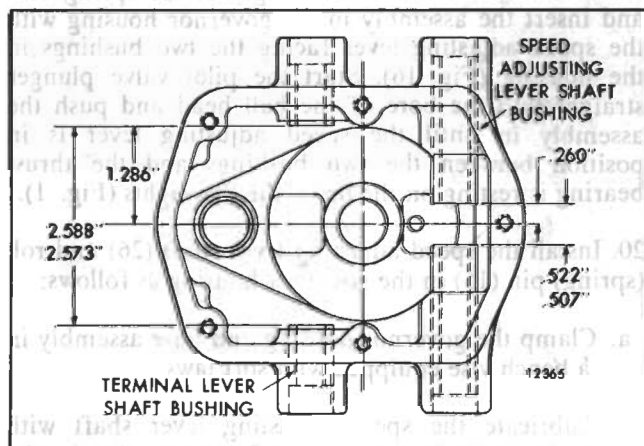

Fig. 13 - Location of Speed Adjusting Lever and Terminal Lever Shaft Bushings in Governor Housing
1. If removed, install new speed adjusting lever and terminal lever shaft bushings in the governor housing to the specified dimensions shown in Fig. 13.
2. If removed, install the pipe plug (83) in the governor housing.
3. Lubricate the two oil pump gears (38) and (63) with engine oil and place them in their respective positions in the governor base (40).
4. Place a new seal ring (39) in the groove in the governor base, with the wide side of the seal down in the groove.
5. Set the governor housing (45) on the base with the dowels in the base registering with the holes in the housing and the idler gear stud in the housing registering with the hole in the idler gear. Press the housing down against the seal ring in the base.
7. Insert the three screws (42) through the governor base and thread them into the governor housing. Turn the ball head assembly while tightening the three screws to make sure the ball head assembly rotates freely.